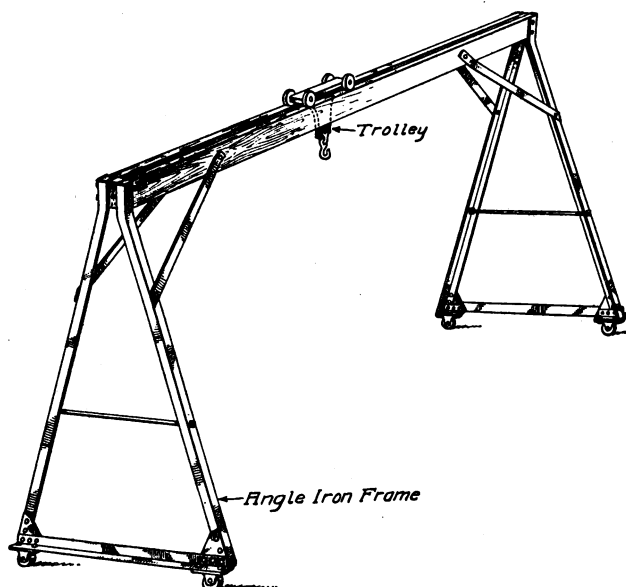

Fig. 8. Overhead Support and Trolley, Used When Roof Trusses Are High or Weak
*Floor Type of Hoist Support.* When the construction of the roof, or ceiling, is such that it will not permit a suspended hoist, one which works from the floor can be constructed. This consists, as Fig. 8 shows, of a double track beam supported on castor-mounted triangular ends, which extend as high as the garage will allow. By this means, the weight can be lifted clear, and the entire structure moved to the desired place. It is constructed a good deal like those just